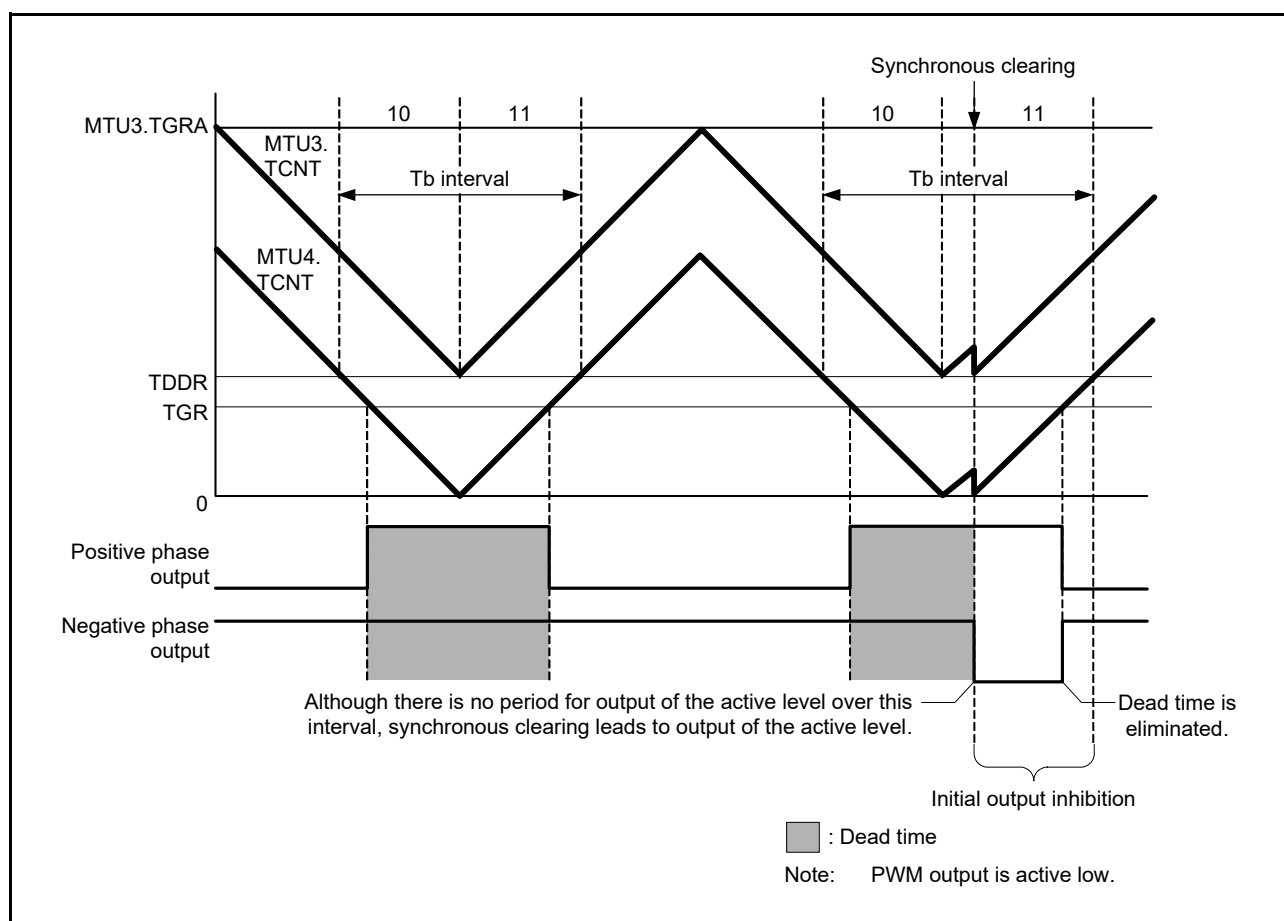

Figure 19.139 Example of Synchronous Clearing (When Condition 2 Applies)
Condition 2: In portions (10) and (11) of the initial output inhibition period in Figure 19.139, synchronous clearing occurs when any condition from among  $MTU3.TGRB \leq TDDRA$ ,  $MTU4.TGRA \leq TDDRA$ , or  $MTU4.TGRB \leq TDDRA$  is satisfied.